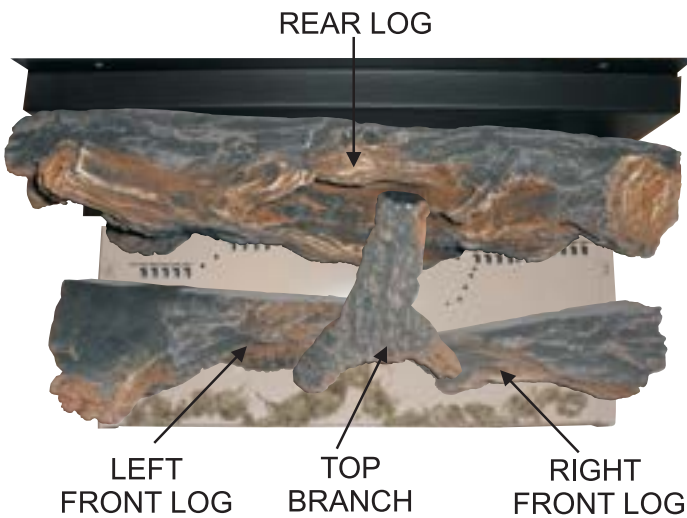

Figure 25 - Log Placement - Top View (DVP20CC Shown)
5. Place ember material on front burner ports as shown in Figure 25.